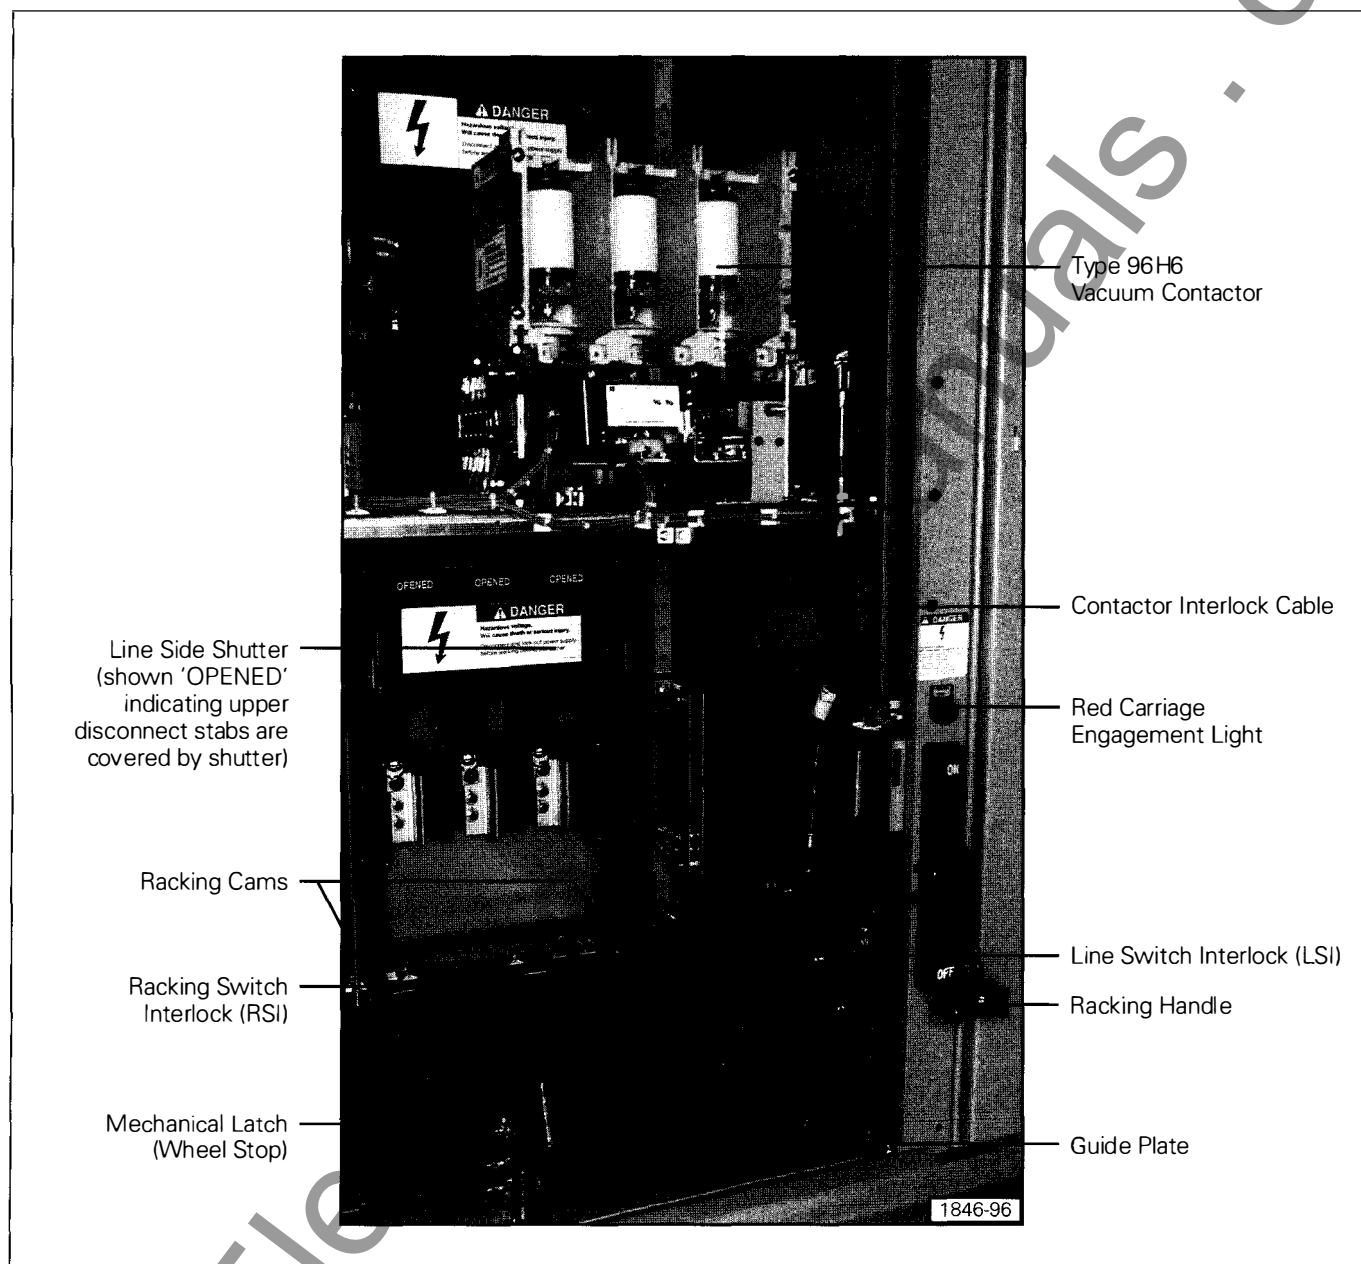

Figure 4. 720A Controller Construction (shown with fuse carriage removed)
To prevent accidental insertion or withdrawal of the fuse carriage when the contactor is closed, a contactor interlock is provided. This is important as the stab fingers on the fuse carriage are not rated to make or break any current other than the very low magnetizing current of the control power transformer. Refer to **Figure 4**.
The mechanical latch (or wheel stop) is mounted on the left hand side of the guide plate on which the drawout fuse carriage rolls. It serves to locate and hold the fuse carriage in the disengaged (test) position. The latch is released by manually pivoting the latch downward and rolling the carriage out of the enclosure. Refer to **Figure 4**.
A red warning light, mounted above the racking handle housing, is energized only when the drawout fuse carriage is fully engaged and incoming power is present, independent of the condition of the contactor or door. When the handle is moved to the OFF position, the red warning light should always go out, indicating the fuse carriage is fully disengaged and isolated from the stab assembly. Refer to **Figure 4**.
All control power derived from the secondary of the control power transformer is carried from the drawout carriage to the low voltage control panel through a set of contact fingers mounted on the rear of the carriage. These contact fingers, along with the mating contact block which is stationary-mounted on the guide plate, make up the Line Switch Interlock (LSI). Refer to **Figure 4**.
The Racking Switch Interlock (RSI) is a microswitch mounted on the rear of the guide plate, which functions to prevent operation of the contactor on test power when the fuse carriage is racked in (ON). As the racking handle is moved from OFF to ON, the normally closed RSI contact opens and isolates the test source from the control circuit. Refer to **Figure 4**.
The fuse carriage is normally shipped installed in its associated compartment. The fuse carriage is secured in the compartment with a retainer bolted to the left rear of the guide plate (see **Figure 4**), positively securing the wheel of the fuse carriage. Remove the retainer and associated hardware prior to operation.